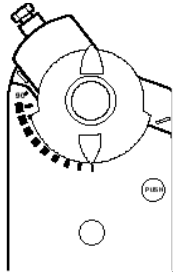

FIGURE 14
- e. Place the position indicator to the 0 position on the outside scale. Figure 14.